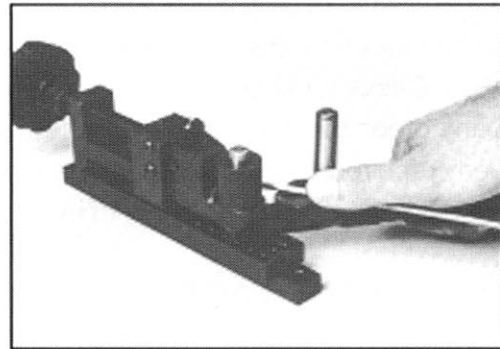

Figure 2
5. Pull the handle in a clockwise direction for a 1/4 turn. This should result in a 90 degree bend. If desired, you may insert the Stop Pin (#16) at the appropriate hole for repetitive bends. Typically, this will be the hole at the front of the bender (furthest away from the Vise Control Knob), second from the right as shown in Figure 2.